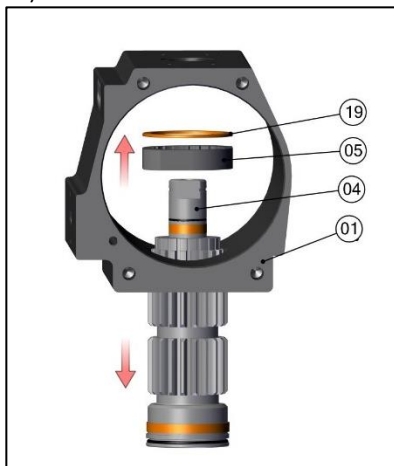

Fig No. 19
- d) Hold the Pinion inside the Body (01) remove washer (19) & Pinion Cam (05) from the top of Pinion. (Refer Fig. No.19)